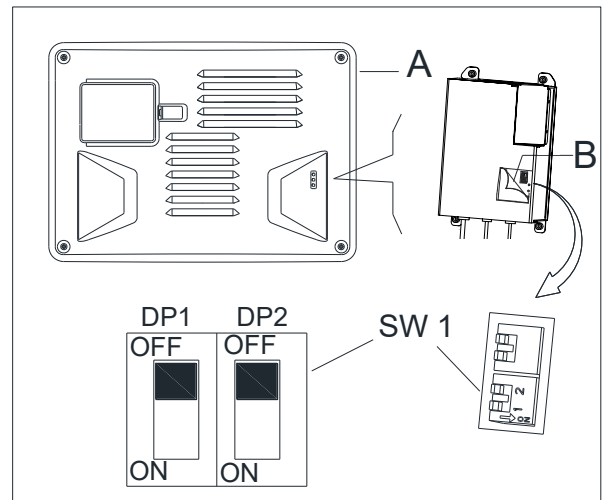

Figure 6.1
1. Turn off the machine and disassemble the control cover (A as Figure 6.1) from the machine. Then pry open the label on the charger cover (B as Figure 6.1). you will find the 2 sets of dipswitches (SW1 and SW2) in the charger.